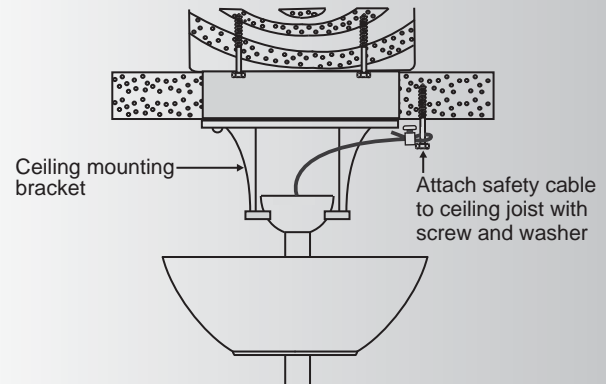

Fig. 11
Step 1. Attach the provided wood screw and washer to the ceiling joist next to the mounting bracket but do not tighten. (Fig. 11)